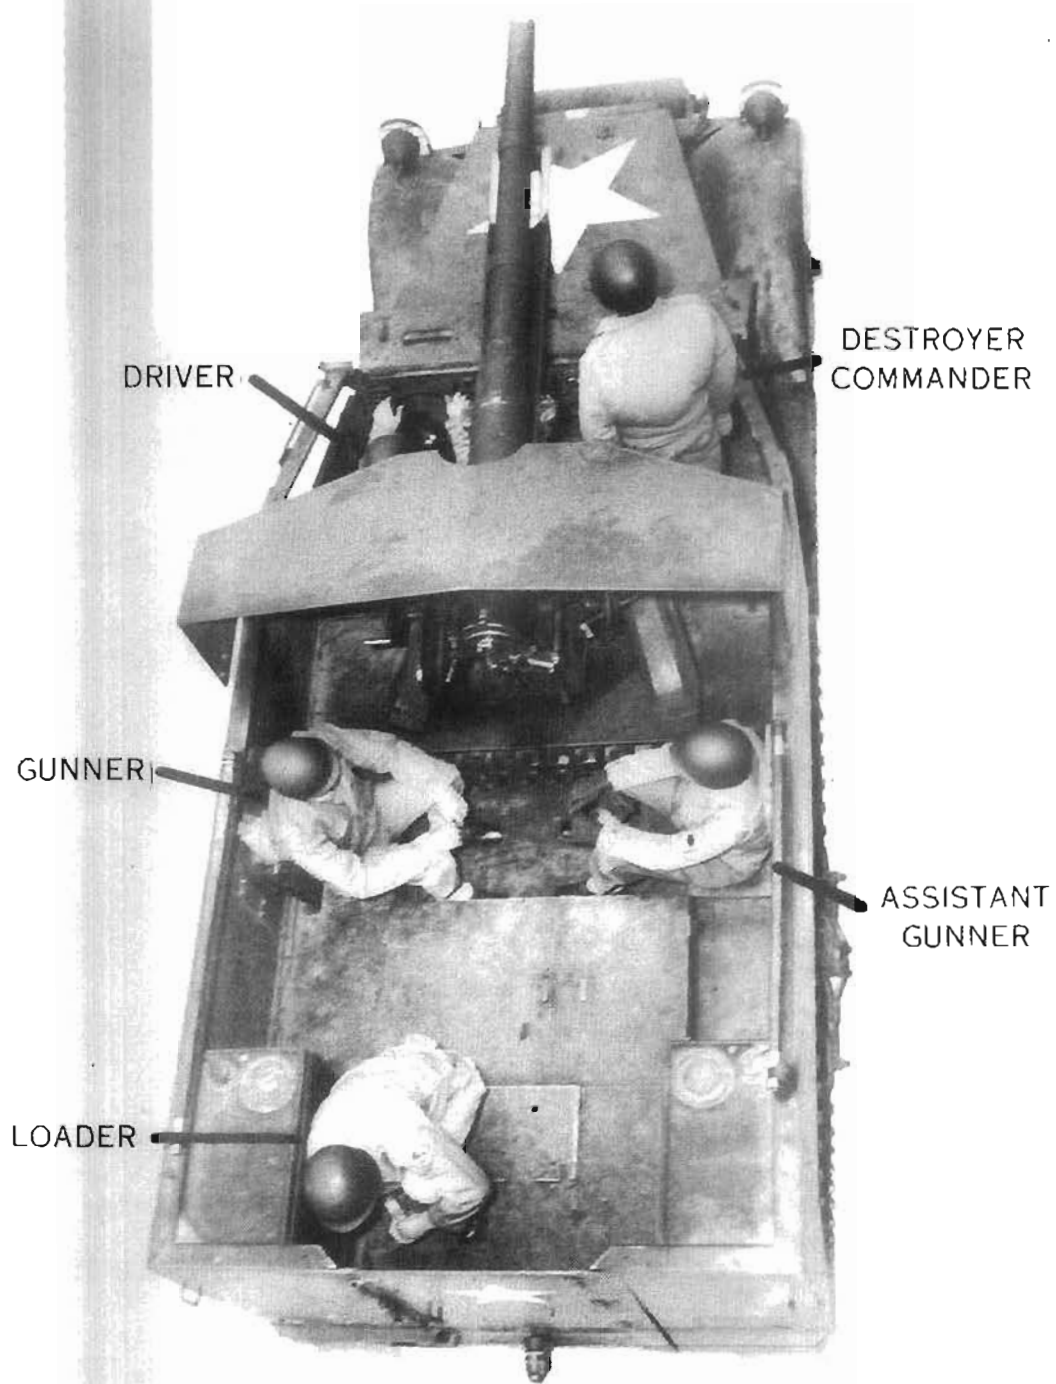

Figure 52
2. Squad members take posts at a run, as follows (fig. 52):